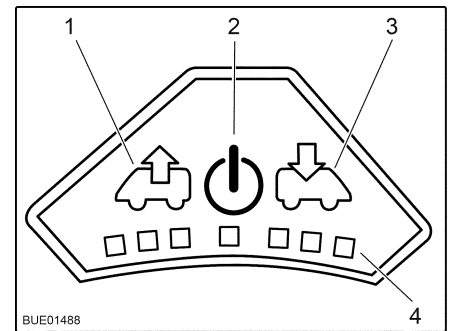

Fig. 56 Control panel for fan
- Switching on:* ■ Press the On/Off button (Fig. 56,2). The fan runs in comfort mode (venting at slowest fan speed).
- Venting:* ■ To increase the fan speed: Press the Vent button (Fig. 56,1). The fan speed in the venting direction increases by one level. LEDs (Fig. 56,4) show the operating levels.
■ To lower the fan speed: Press the Aerate button (Fig. 56,3). The fan speed decreases by one level.
- To increase the fan speed: Press the Aerate button (Fig. 56,3). The fan speed in the aerating direction increases by one step. LEDs (Fig. 56,4) show the operating levels.
- To lower the fan speed: Press the Vent button (Fig. 56,1). The fan speed decreases by one level.
- Press the On/Off button (Fig. 56,2). The fan stops, the LEDs go out.